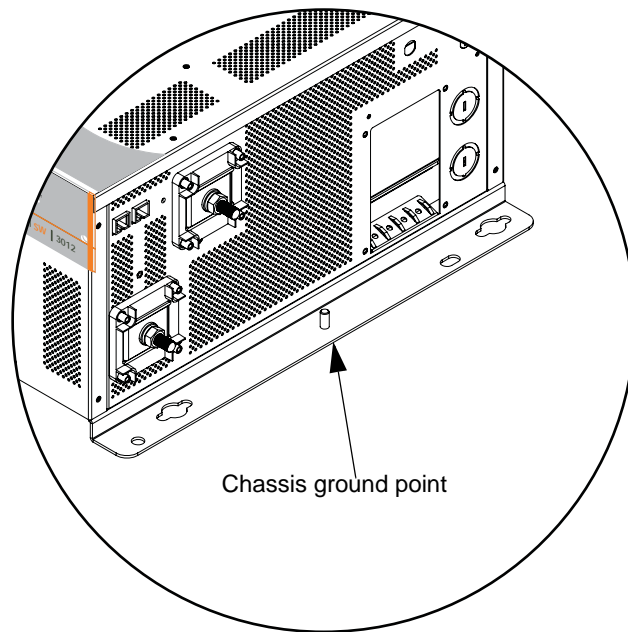

Figure 10 DC Wiring and DC Grounding
1. Using the appropriate wrench, loosen the bolt on the chassis ground point shown in Figure 10.